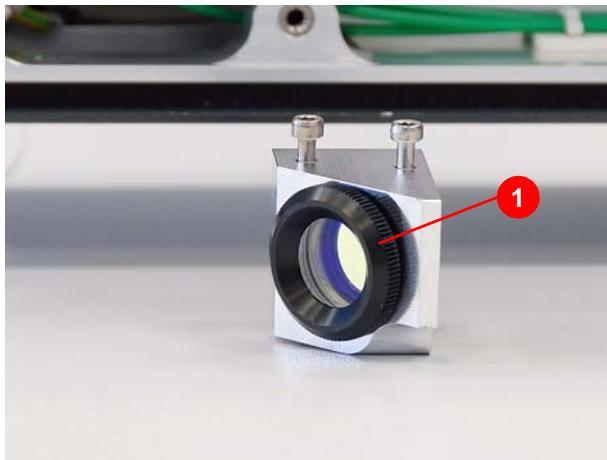

Figure 7.38 Removing the lower deflecting mirror (2)
- Unscrew the upper deflecting mirror (1) (Figure 7.38) from the retaining block and lay it on a clean surface.